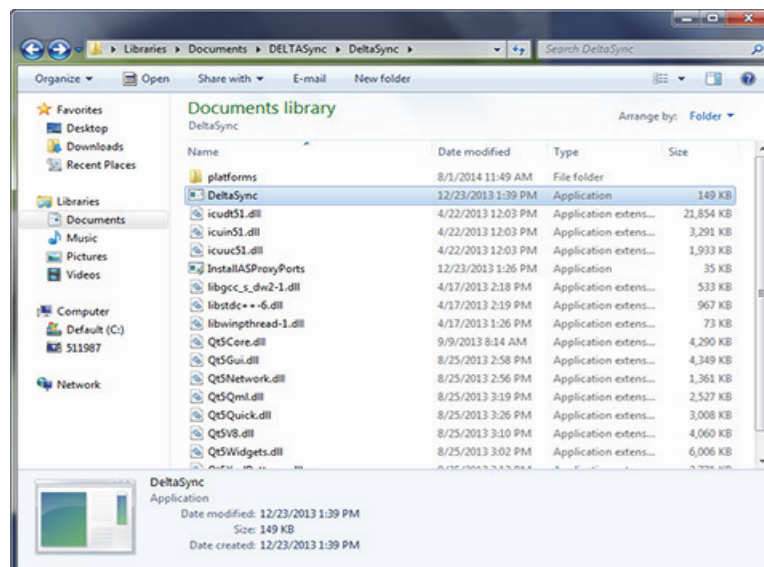

Figure G-22 DeltaSync application file selected
3. Double-click the **DeltaSync** file to start the application (see Figure G-22 on page 188).